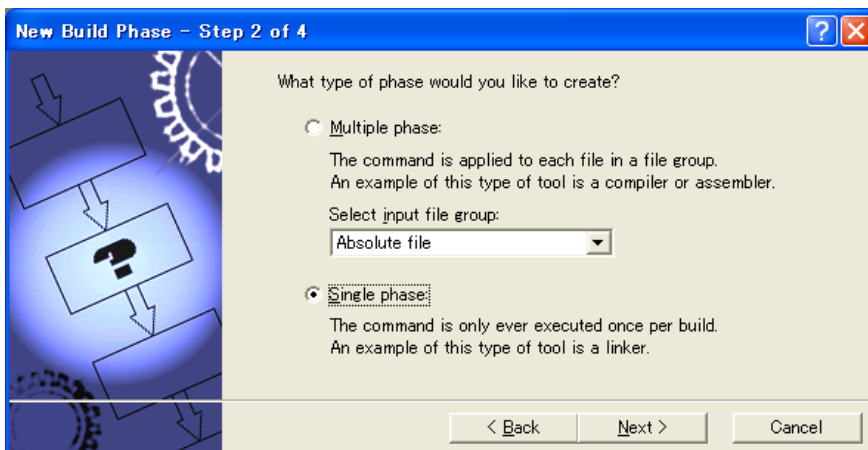

Figure 3 [New Build Phase] Dialog Box (Step 2)
- (3) The dialog box for selecting a type of a new build phase is opened (Figure 3).